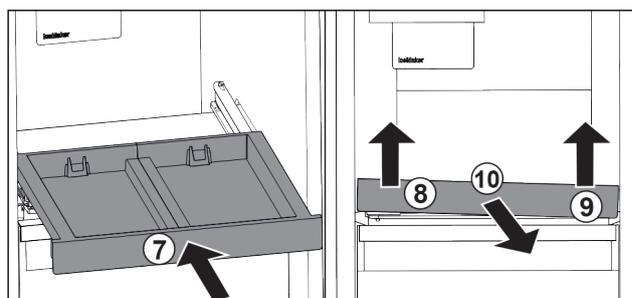

Fig. 25
- ▶ Slide in the pull-out board. Fig. 25 (7)
- ▶ Lift the pull-out board on the front left. Fig. 25 (8)
- ▶ Lift the pull-out board on the front right. Fig. 25 (9)
- ▶ Take out the pull-out board to the front. *Fig. 25 (10)*